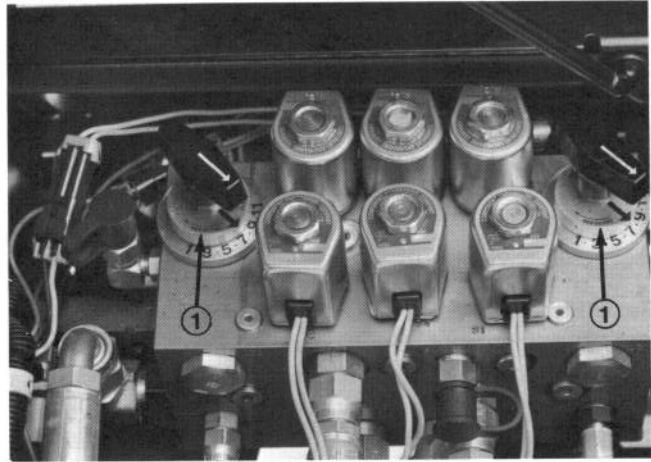

Figure 22
Reel Speed Control (Fig. 22) – Controls RPM of front and rear cutting units. #1 position is for backlapping. Remaining settings are for mowing operations. See section in manual for operating instructions.
4. To set reel speed, rotate knobs (Fig. 22) until indicator arrows are in line with the number designating desired setting.